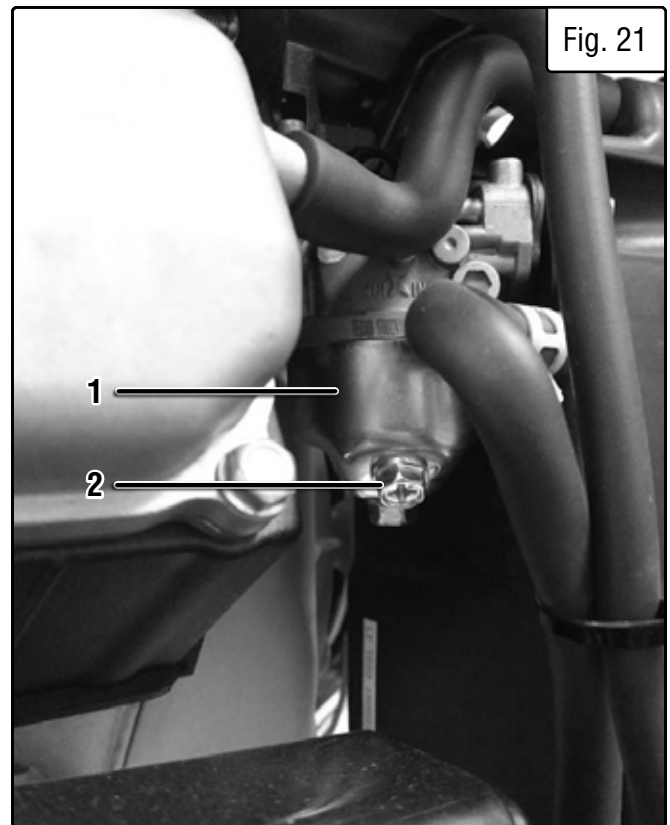

Fig. 21
1. Locate the carburetor (Fig. 21 - 1). It can be accessed on the back of the generator, right beside the air filter.
4. Open up the carburetor drain screw (Fig. 21 - 2) with a Phillips screwdriver. Fuel will start draining from the carburetor and fuel tank through the funnel.